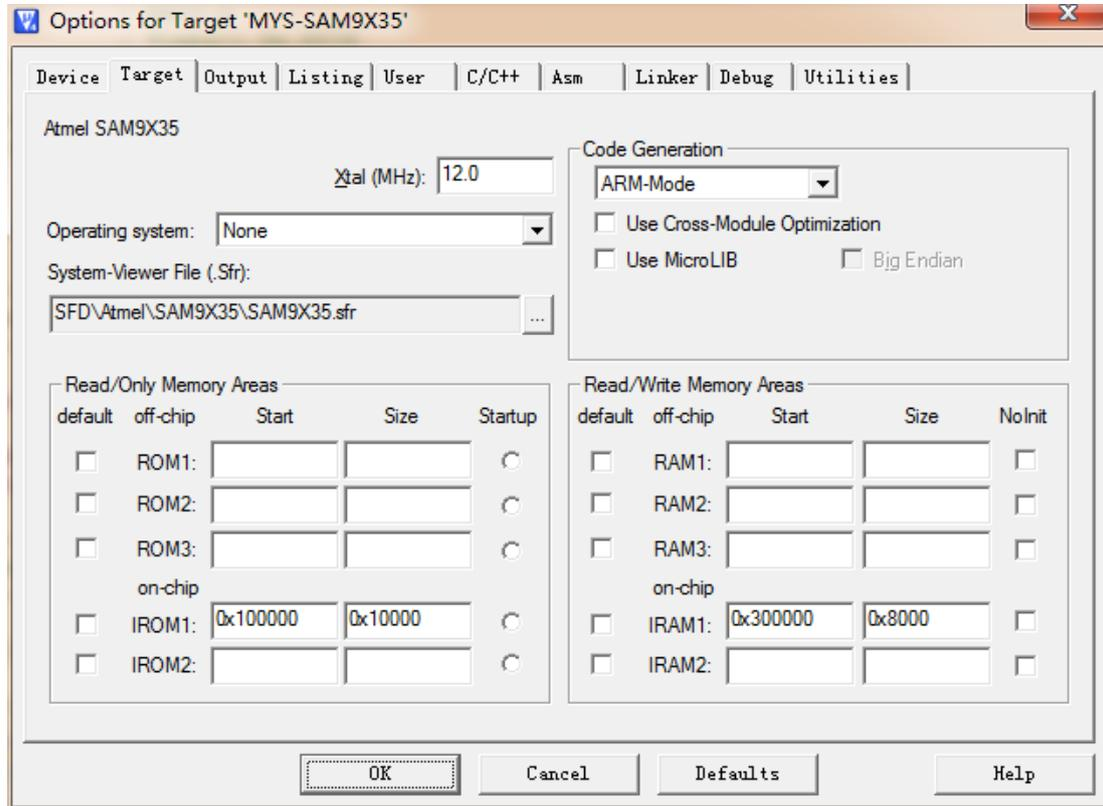

Figure 3-1
- (1) Select project and click right button, then select Option for target 'MYD-SAM9X35' or press Alt + F7. The Setting window is shown in figure 3-1:
When default Configuration is completed, Target option will have a default configuration automatically. Refer to figure 3-1.